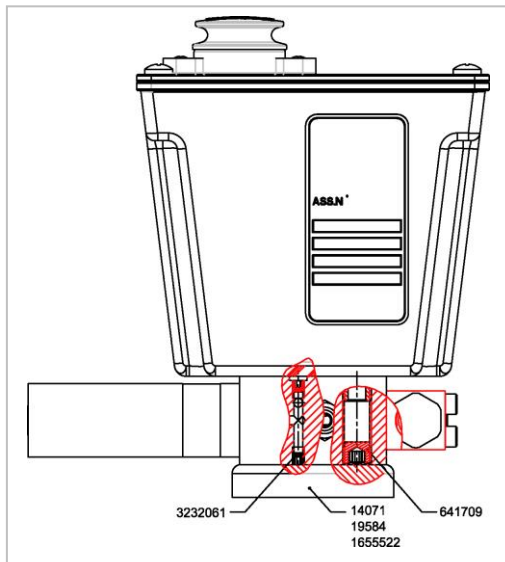

Fig. 1
2. Disconnect the air supply and unscrew the connections on the base (codes: 323061-14071-19584-165522-641709. (FIGURE 1)